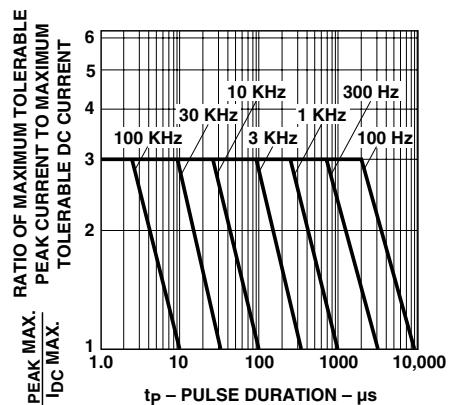

Figure 5. Maximum tolerable peak current vs. pulse duration. ( $I_{DC\ Max.}$  as per maximum ratings.)
1. See Figure 5 to establish pulsed operating conditions.